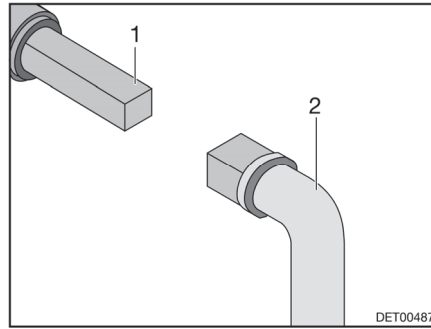

Fig. 133 Operation of the waste water tap
- Place key (Fig. 133,2) onto the square bolt (Fig. 133,1).